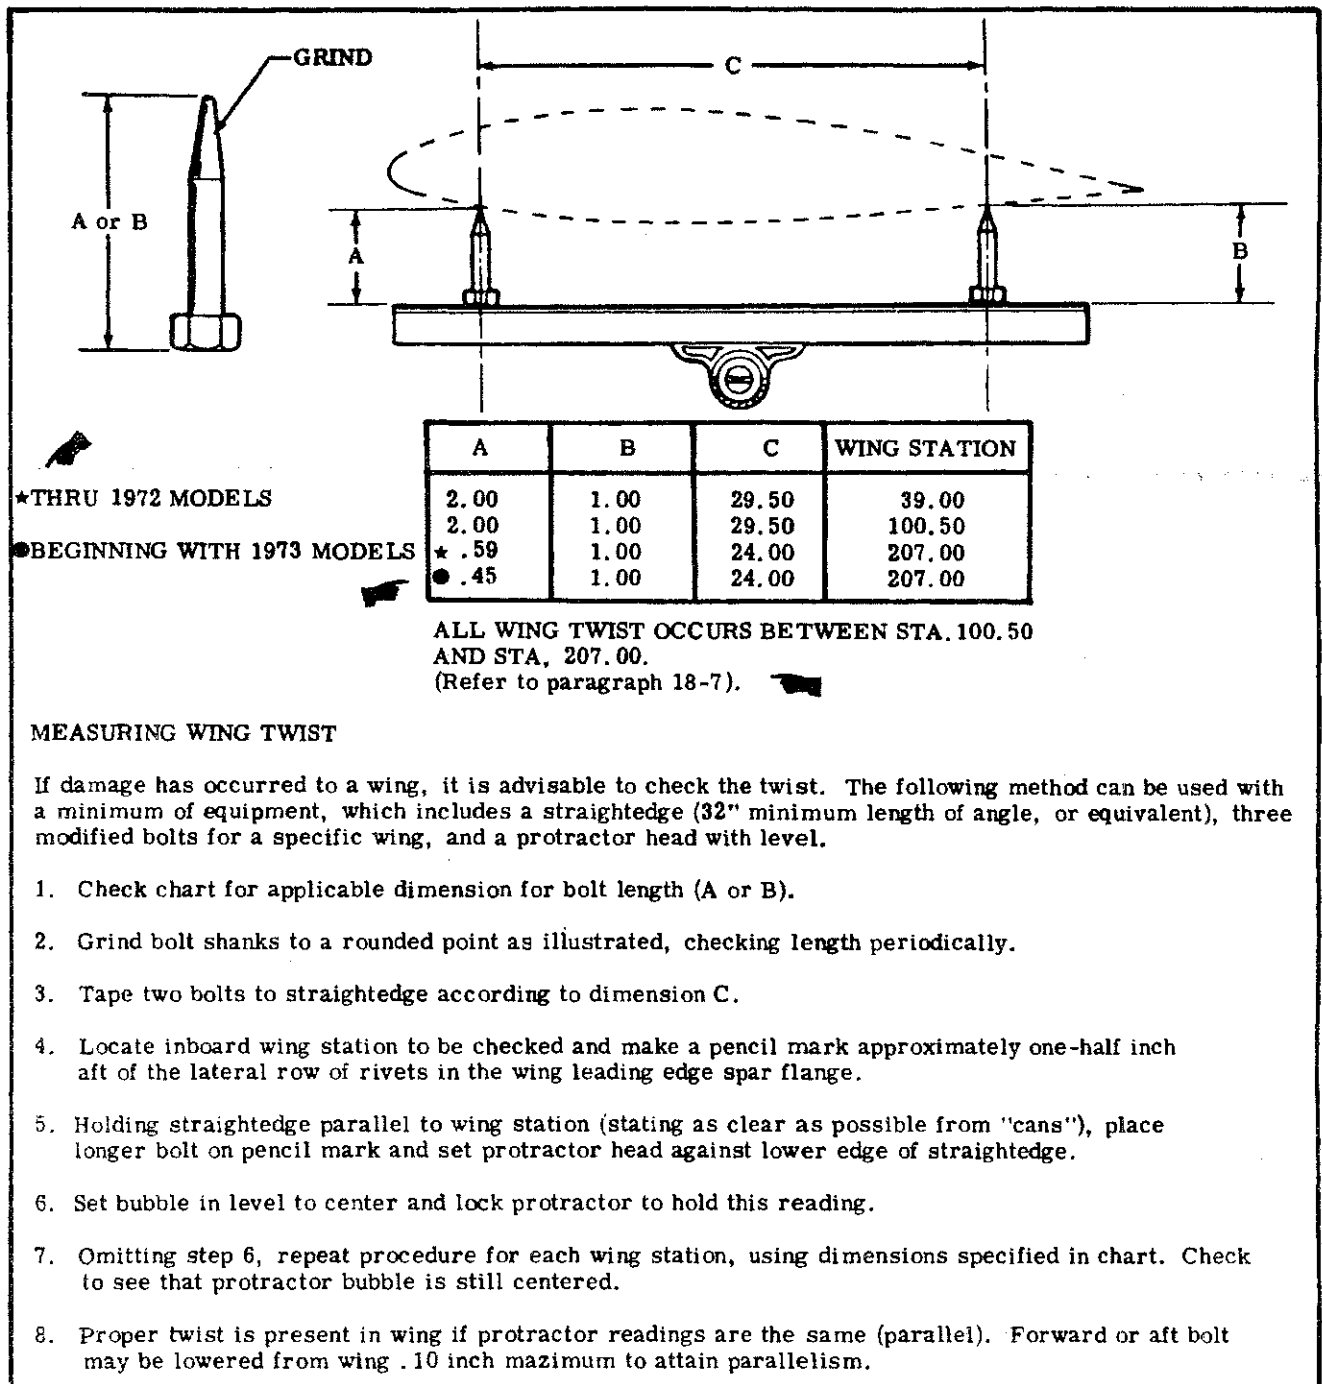

Figure 18-2. Checking Wing Twist
**18-8.** Wing twist (washout) and horizontal stabilizer angle of incidence are shown below. Stabilizers do not have twist. Wings have no twist from the root to the lift strut station. All twist in the wing panel occurs between this station and the tip rib. Refer to figure 18-2 for wing twist measurement.